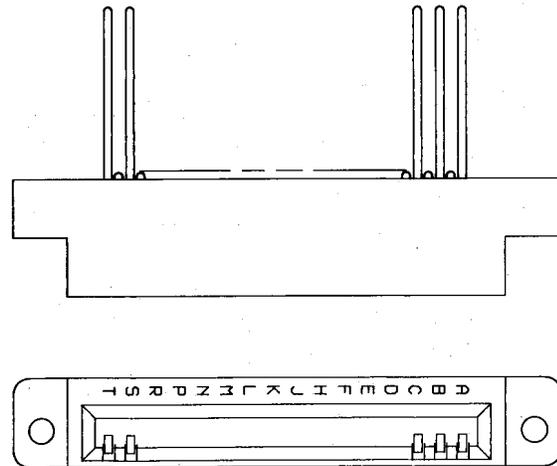

Fig. 6—KS-20277, L2 Connector
**2.02 KS-20277, L2:** The KS-20277, L2, (Fig. 6) is a multicontact, female connector, consisting of a rectangular block of insulating material equipped with 17 gold-plated contacts in a single row on 0.100-inch centers. This connector is arranged to engage circuit terminations on one side of a 1/16-inch thick printed wiring board. The wiring end of the contact is arranged for two solderless wrapped connections of 26-gauge wire. This connector is used in No. 5 crossbar offices, which are arranged for automatic call distribution. The L2 connector replaces the L1 connector (Mfr Disc.).